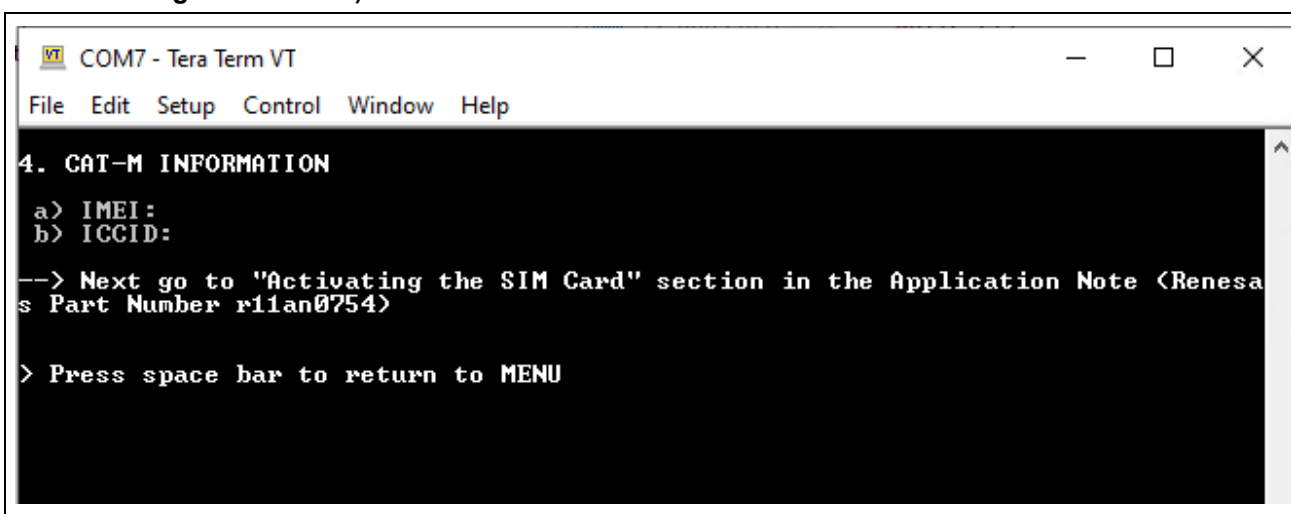

Figure 45. Getting CAT-M Information
8. Enter the **ICCID** value obtained from the **Download and Run the Project**. See the **ICCID** value in **Figure 45. Getting CAT-M Information**. Fill in other fields as needed.